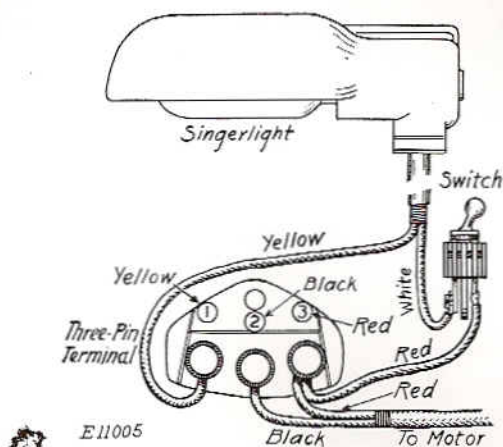

FIG. 2. THREE-PIN TERMINAL AND SINGERLIGHT WIRING DIAGRAM
**Motor Leads**—Fasten the lead with the **red** tracer thread to the **red** pin, No. 3, and fasten the solid **black** motor lead to the **middle** pin, No. 2, as illustrated in Fig. 2.
**Singerlight Leads**—Fasten the lead with the **yellow** tracer thread to the **yellow** pin, No. 1, and fasten the lead with the **red** tracer thread to the **red** pin, No. 3. This red lead connects terminal and Singerlight switch. A white wire connects Singerlight switch and Singerlight, as shown in Fig. 2.
(SEE FIG. 2—WIRING DIAGRAM)
3. Loose or broken connections. See that the two insulated thumb nuts of the three-pin terminal, marked 1 and 3, respectively, Fig. 2, page 4, which fasten the Singerlight wires to the terminal posts, are firmly tightened.